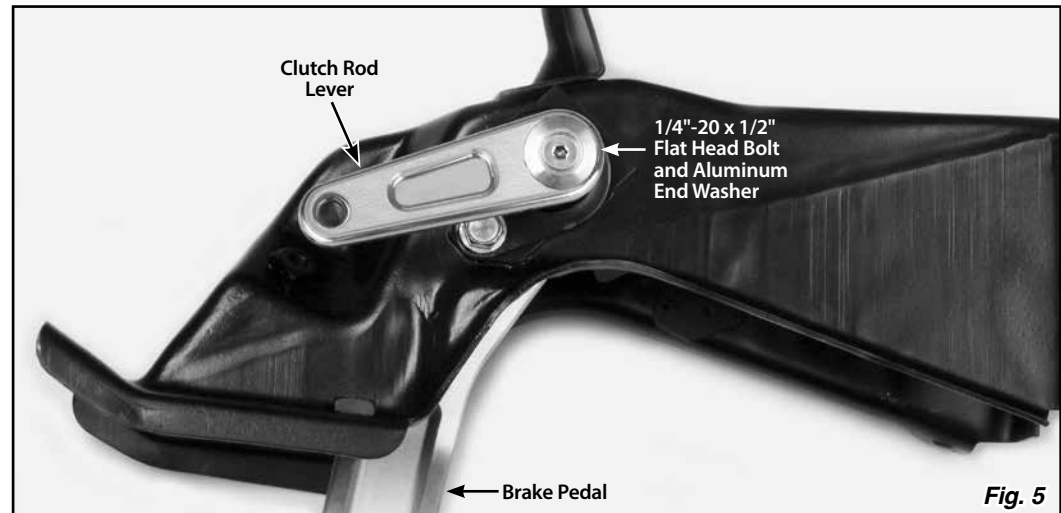

Fig. 5
**Step 5:** Connect the clutch rod lever to the original clutch pushrod (not included), and install it onto the right hand end of the splined shaft. Install the 1/4"-20 x 1/2" flat head bolt and aluminum end washer onto the right hand end of the splined shaft. **Fig. 5**